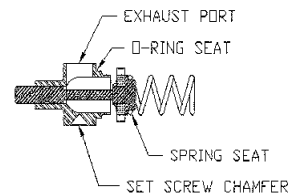

FIG. 1
4. Place the new o-ring on the new valve body. It should seat into the small groove on the o-ring seat. SEE FIG 1 for location. Lightly oil the O-ring. Use Extreme-Lube from AKALMP throughout your paintball marker.
5. Place a yellow Nelson valve spring on the back of the cup seal or equivalent. SEE FIG 1. DO NOT CLIP THE SPRING. (For more spring info, see Best Reported Setup.)
6. Place valve in the marker with a valve removal tool (don't modify the valve) with exhaust port up and the set screw chamfer showing in the set screw hole. SEE FIG 1. Using the new set screw that came with the valve, place set screw in the marker body and gently tighten down. Now, alternately tighten the jam nut and set screw until both are tight. Do not over-tighten. This alternating tightening action will help keep the valve body straight inside the bore. Now re-assemble the hammer with a yellow Nelson hammer spring or equivalent. DO NOT CLIP THE SPRING ENDS. This spring setting works well. (See Best Reported Setup.) You may need to re-time the trigger once the marker is reassembled. The timing for a low pressure marker should be a little more conservative than most high pressure markers.